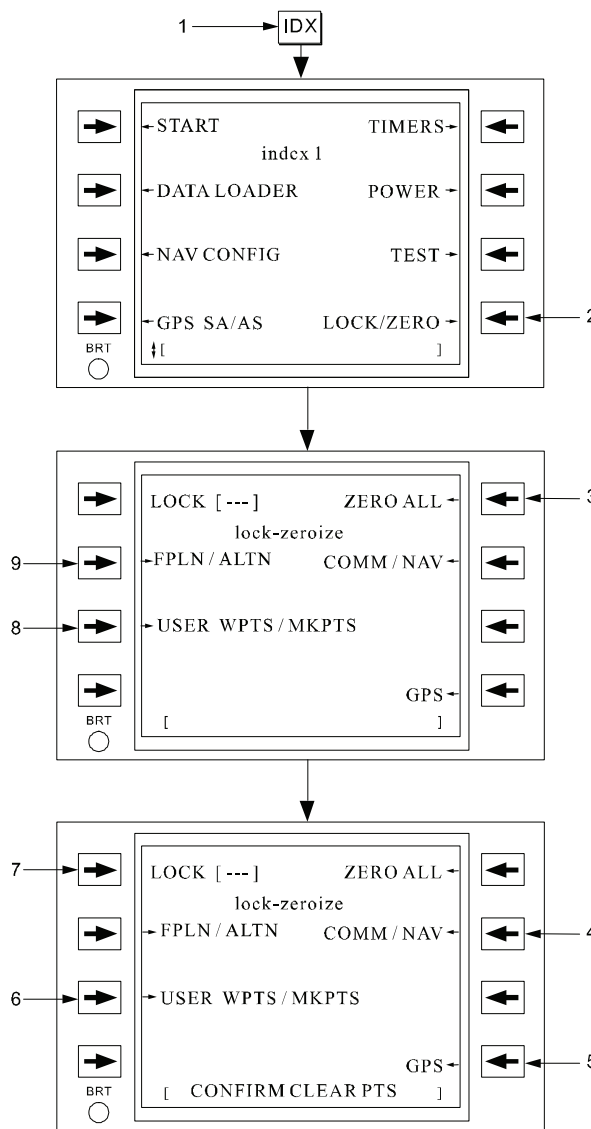

Figure 3B-136. Zeroizing or Locking Up System Data
(5) *Zeroizing System Data.* The Lock/Zeroize page permits selective blanking of data within CDU nonvolatile memory and the data loader cartridge. In addition to selective blanking, a single key commands a master zeroize of all data stored in the system, including, V/UHF HAVE QUICK data, and the GPS selective availability/anti-spoofing keys. Figure 3B-136 and Table 3B-101 show the Lock/Zeroize page and its associated operation in blanking different portions of system memory.
To lock the system, access the lock/zeroize page Figure 3B-136 and Table 3B-101, enter a three-character password in the scratchpad, and press the **LOCK** line select key. Both CDU's will display the lock/zeroize page and display the LOCKED annunciation, indication the system is locked. No function keys or line select keys (other than the LOCK and ZERO ALL) are operational at this point. Once the system is locked, it can only be unlocked and the full functionality restored to the CDU's by either re-entering the same password in the scratchpad of the CDU and pressing the **LOCK** line select key or pressing the **ZERO ALL** line select key twice on the CDU to zeroize system data.